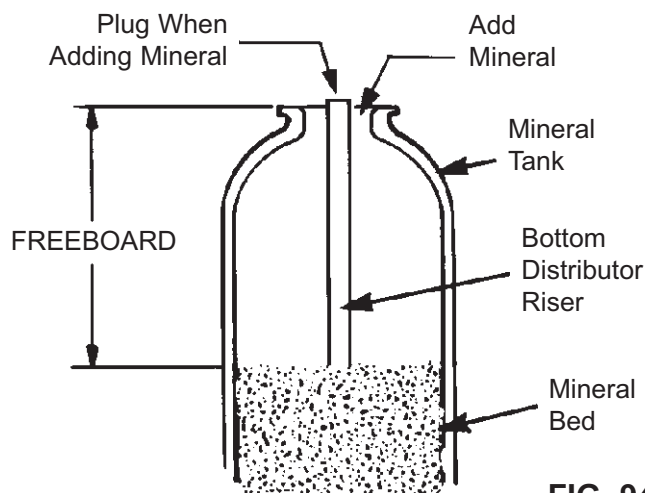

FIG. 94
8. Use a yard stick or steel tape measure to find the distance down to the top of the mineral bed (See Figure 94). If it is lower than the suggested freeboard, shown in the table below, add more neutralite material.